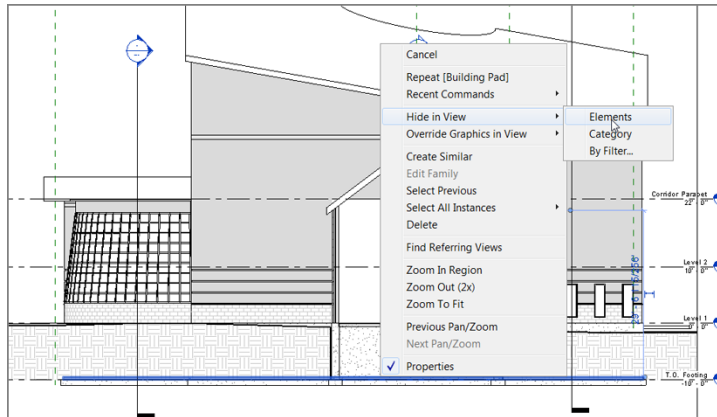

FIGURE 18.23: Hiding the pad in the view
13. You can see the pad sitting on top of the footing extending past the wall, as shown in Figure 18.23. Select it.
14. Right-click, and select Hide In View > Elements (see Figure 18.23).